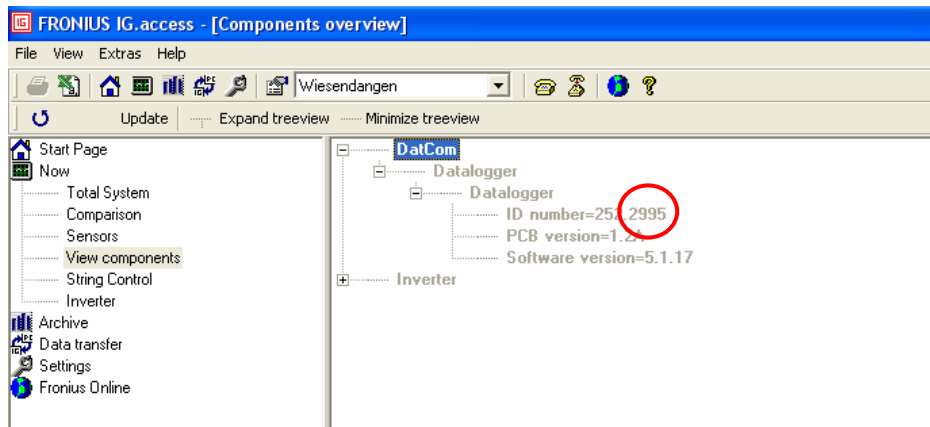

Fig. 7: Logger serial number: last four digits after the dot.
- Logger Serial-No.: the serial can be obtained from the data logger's menu (last 4 digits after the dot, see Fig. 7)